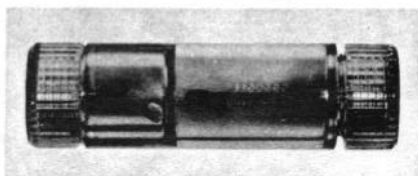

Figure 44. Plastic lubricant case.
- (b) The plastic lubricant case (fig. 44) is closed with a screw cap which has a stem (applicator) attached that is used to apply oil drop by drop on one end. The cap is fitted with a gasket to prevent oil leakage. The other end has another screw cap and contains rifle grease.